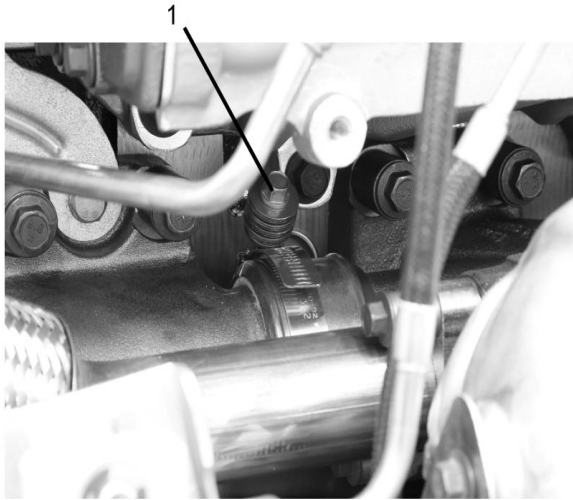

Figure 31: Exhaust Manifold Ring Seal
32. Install #1 ring seal clamp (**Figure 31**, Item 1) center of shield.